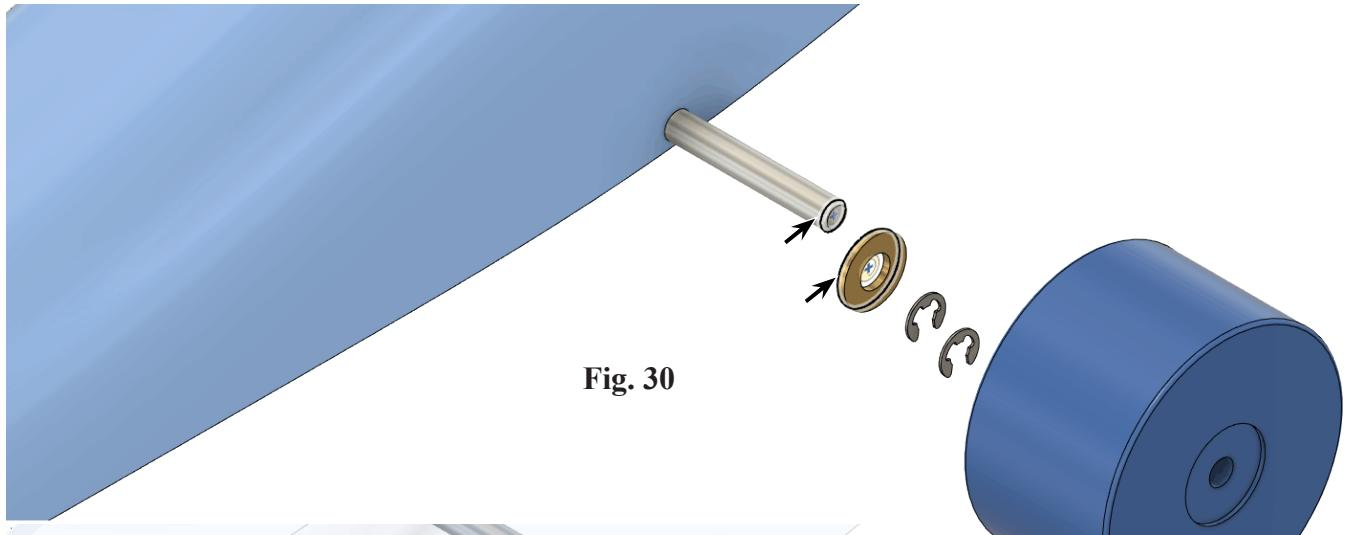

Fig. 30
Step 5. Click Joint  (J) on toolbar.
Step 6. Click inside cylindrical edge of Washer for first component selection and large cylindrical edge of Axle for second component selection, Fig. 30.